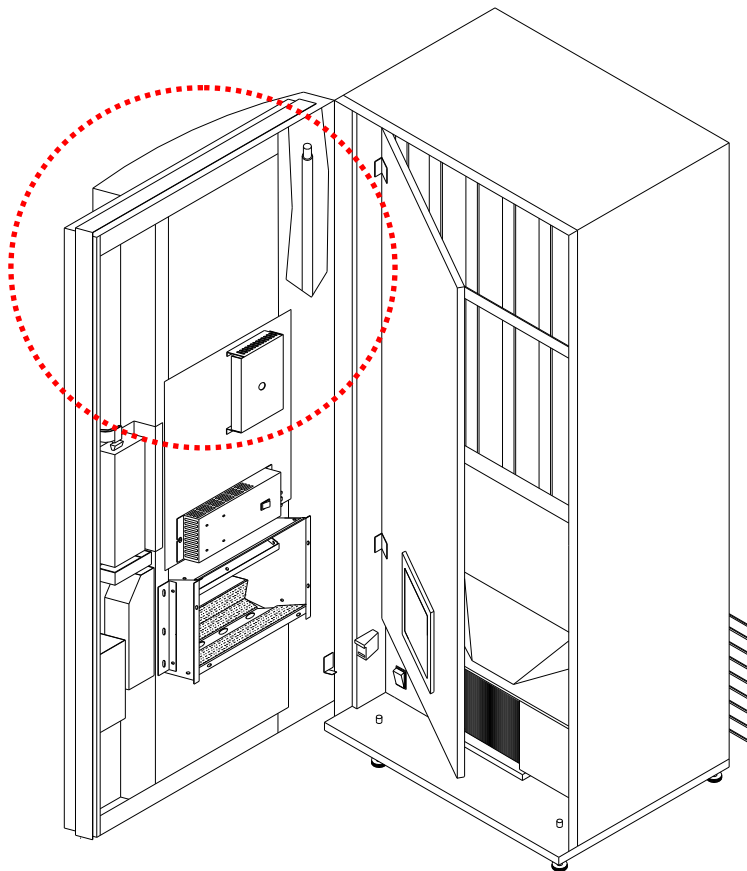

FIG. 6.2 – INSPECTIONS HOLES
- By means of the inspections holes (ref. Fig. 6.2) take out the neon lamps to be replaced by the two fastening clips